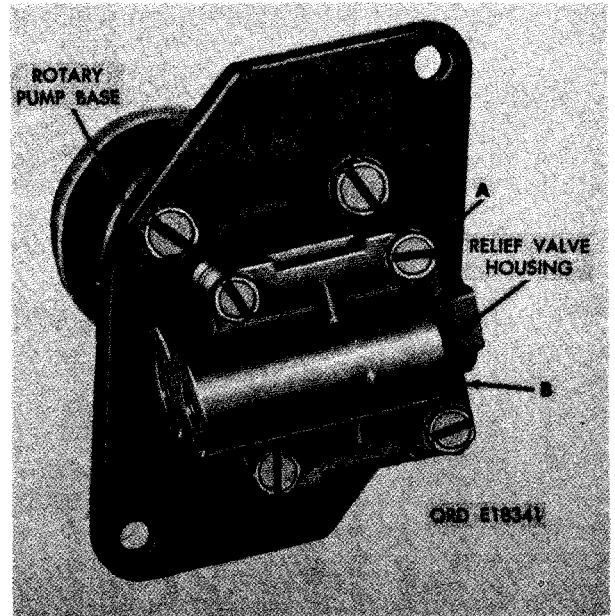

FIGURE 414. REMOVING OR INSTALLING RELIEF VALVE HOUSING.
(3) Figure 414. (A) Remove four assembled washer screws securing relief valve housing to rotary pump base. (B) Remove relief valve housing.